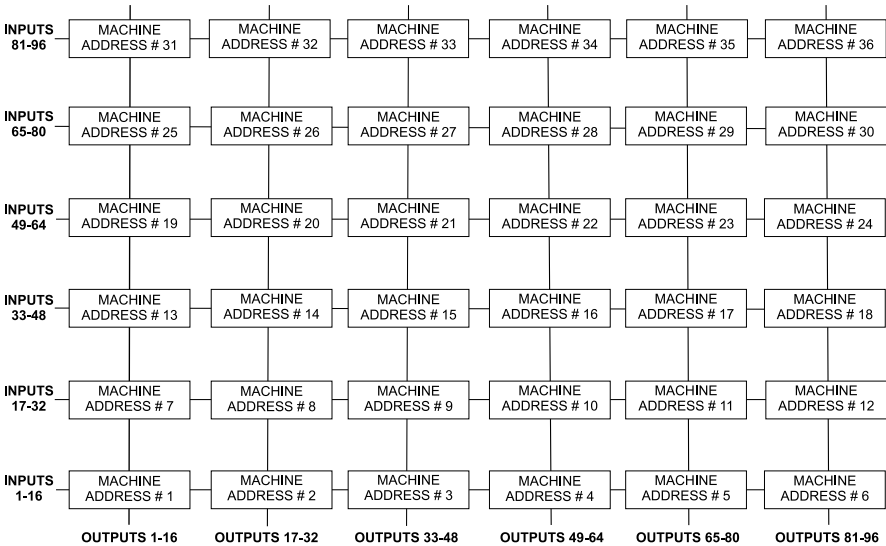
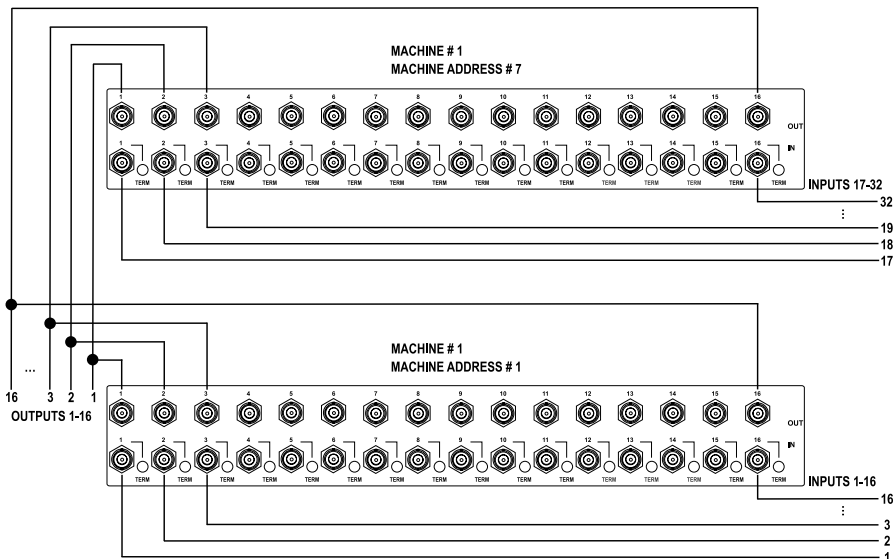
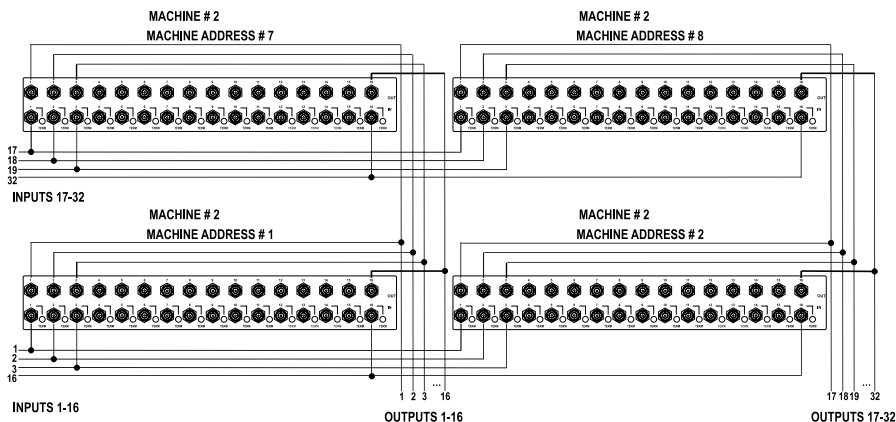

Figure 8: MACHINE ADDRESS # Designation
Figure 9: Connecting the 32x16 Switcher
Figure 10: Connecting the 32x32 Switcher
You can expand the number of inputs and outputs using several **VS-162V** units¹. Set the **MACHINE ADDRESS #** (see section 6.5.2) on each **VS-162V** unit to define which inputs and outputs are configured to that particular unit when expanding, as the chart in Figure 8 illustrates.
For example, to connect a 48x64 switcher (48 inputs and 64 outputs), you would configure using **MACHINE ADDRESS #** 1, 2, 3, 4; 7, 8, 9, 10; 13, 14, 15 and 16. You can only choose a rectangular² configuration from the chart in Figure 8.
As can be seen in Figure 8, a 32x16 switcher consists of 2 **VS-162V** units (**MACHINE ADDRESS #** 1 and **MACHINE ADDRESS #** 7). To assemble, as Figure 9 illustrates:
3 For a single group, this is usually set to # 1, as in the example in Figure 9
2. Set the MACHINE ADDRESS # on one **VS-162V** unit to 1 and on the other **VS-162V** unit to 7 (refer to Figure 8).
As can be seen in Figure 8, a 32x32 switcher consists of 4 **VS-162V** units (MACHINE ADDRESS # 1, MACHINE ADDRESS # 2, MACHINE ADDRESS # 7 and MACHINE ADDRESS # 8). To assemble, as Figure 10 illustrates:
2. Set the MACHINE ADDRESS # to 1, 2, 7 and 8 on each of the 4 units, respectively (refer to Figure 8).
¹ Set to # 1 in most cases. In the example in Figure 10, the MACHINE # is set to # 2
The MACHINE ADDRESS # is determined via the MACHINE ADDRESS Menu command, as section 8.4 describes. The MACHINE ADDRESS # defines which inputs and outputs are configured to that particular unit when expanding, as the chart in Figure 8 illustrates.